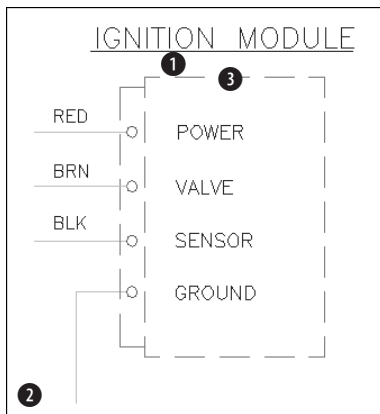

Figure 13-21: A section of an electrical schematic
2. Save the file as ab13-06.dwg in your AutoCAD Bible folder. This is a small section of an electrical schematic, as shown in Figure 13-21. Make sure ORTHO and OSNAP are on and set running snaps for endpoint, midpoint, and intersection.
Select objects: *Start a window by picking ② in Figure 13-21.*